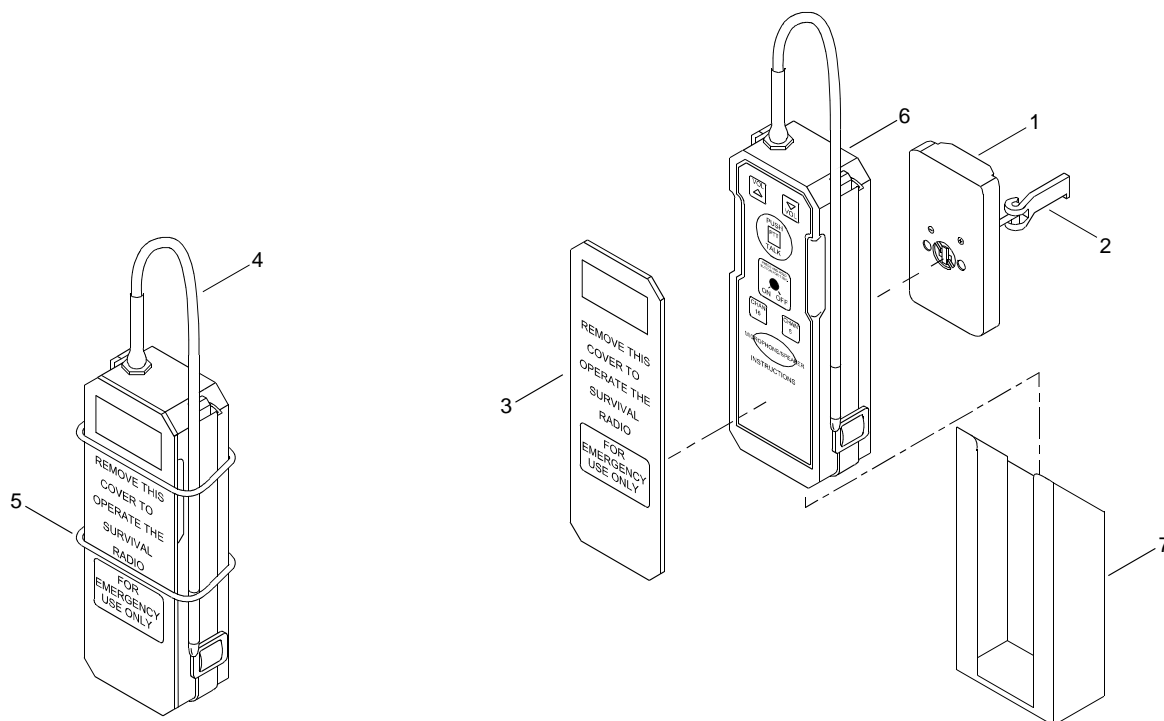

Figure 2. Lifeboat Radio (LBR)
20. Remove spare lifeboat radio battery (figure 2, item 1).
- a. Deactivate lifeboat radio battery (figure 2, item 1).
- {1} Grasp the activation indicator lever (figure 2, item 2).
- {2} Lift lever (figure 2, item 2) and turn counterclockwise to open latch and deactivate lifeboat radio battery (figure 2, item 1).
- b. Lift out spare lifeboat radio battery (figure 2, item 1).
21. Install the lifeboat radio battery (figure 2, item 1).
22. Install the control panel protective cover (figure 2, item 3).
- a. Bend antenna (figure 2, item 4) back down and slide o-rings (figure 2, item 5) up over lifeboat radio battery (figure 2, item 1) and end of antenna (figure 2, item 4).
- b. Slide the control panel protective cover (figure 2, item 3) up under o-rings (figure 2, item 5).
23. Place the lifeboat radio (figure 2, item 6) into the lifeboat radio mount (figure 2, item 7).